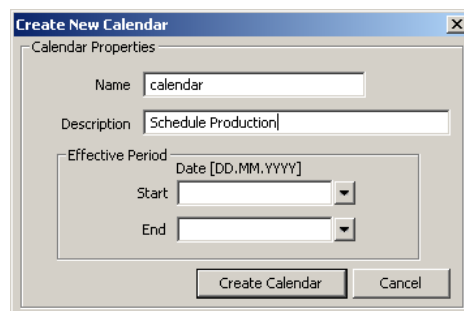

Figure 178: Create New Calendar dialog box.
3. In the Create New Calendar dialog box (as shown in Figure 178) enter Name and Description of the calendar. Note, that a BACnet calendar does not have the **Effective Period** settings.